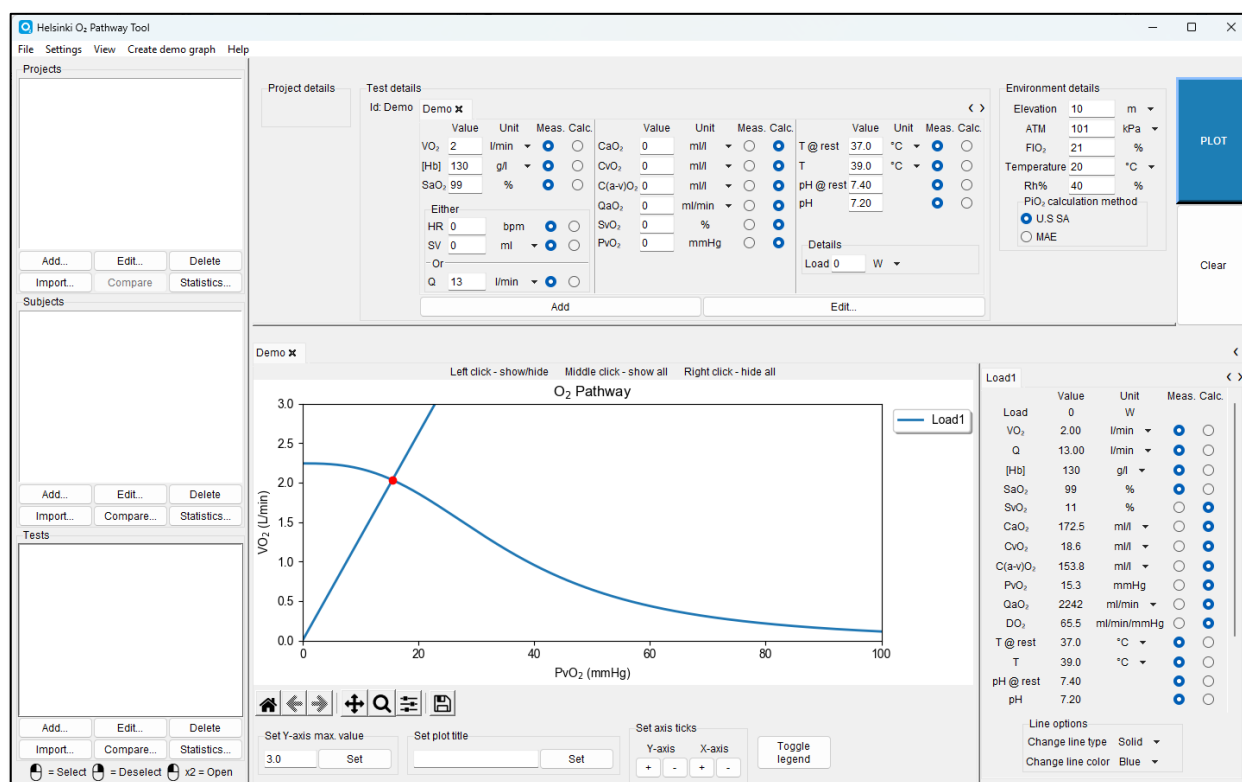

Figure 34
3. A demo figure is shown and the values used to create the figure are shown in the details panel (Figure 34).